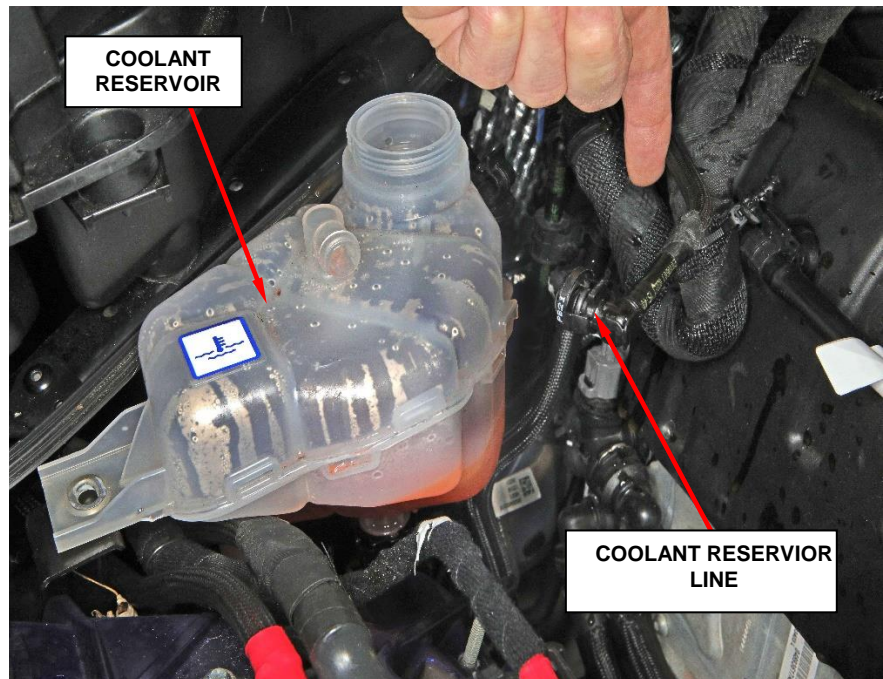

Figure 10 – Coolant Reservoir
16. Disconnect the de-gas coolant line at the coolant reservoir (Figure 10).